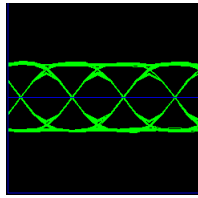

Figure 21: "Clean" Eye Pattern
- The eye pattern NEVER looks "clean," as in Figure 21